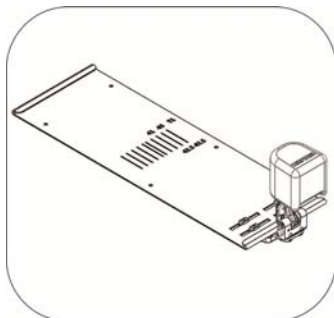

Figure 5-137
5.3.12.1 Pommel assembly is shown as Figure 5-137